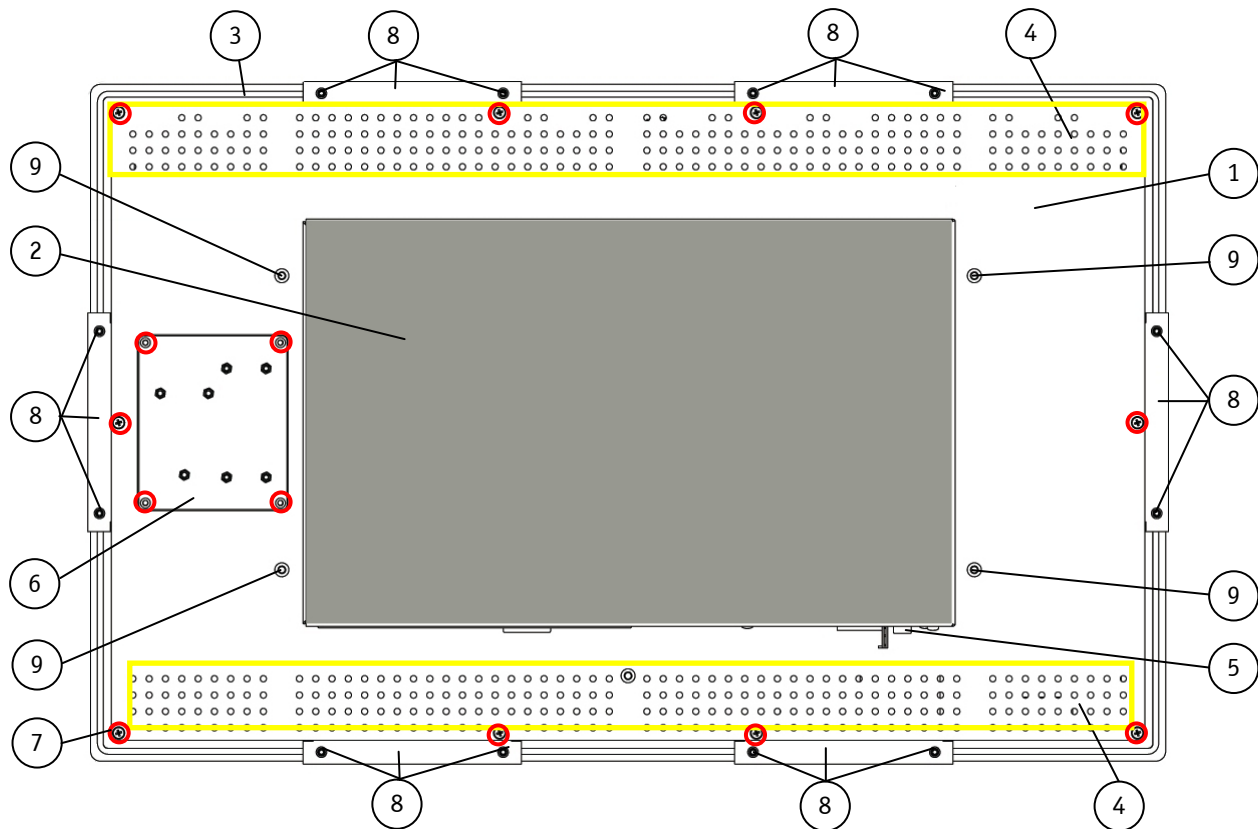

Fig. 26: Rear side of OmniClient (shown as a HMI-OC215)
The OmniClient with 15.6", 18.5" and 21.5" display will be mounted into an instrument panel or cabinet by use of the mounting clamps and screws, as shown in Fig. 26, pos. 8.
Please do not remove the screws marked with red in the picture (Fig. 26, pos. 7).
The gasket (Fig. 26, pos. 3 and Fig. 37, pos. 5) at the rear of the OmniClient has to be present and in proper condition.